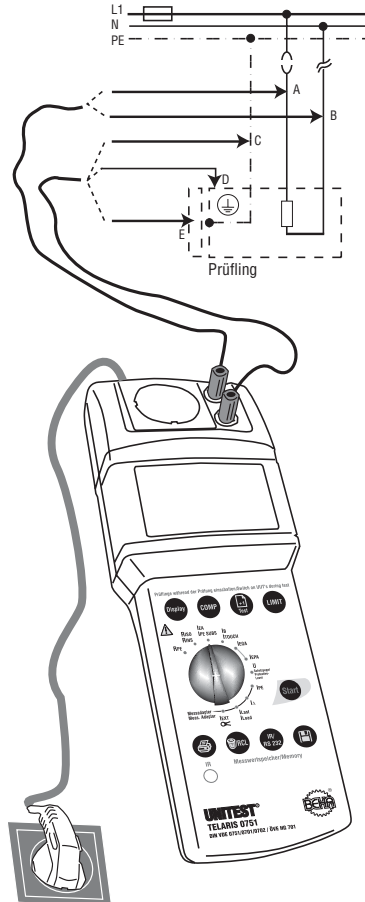

Figure 6.10: Measuring the substitute leakage current for fixed installed appliances or appliances not equipped with a mains plug.
- ▶ Connect the UNITEST TELARIS 0751 via the mains plug (1) to a functional and correctly wired and grounded mains socket.
- ▶ Turn the 'Measurement function' selection switch (15) to position 'IPE SUBS'.
- ▶ Connect the UUT PE connection to the blue 'PE' socket (5), in compliance with C in Figure 6.10.
☞ For appliances of protection class II or III, additionally connect the 'PE' socket (5) to all touchable, conductive casing parts of the UUT, in compliance with D, E in Figure 6.10.
- ▶ Connect the 'L/N' socket (4) to all active connectors of the UUT, in compliance with A, B in Figure 6.10.
- ▶ Press the key "Start" (9). The unit symbol which is blinking on the display is an indication for the active measurement procedure.
- ▶ Read the measurement value from the LC display (6). If the limit value display is active, the symbol 'LIMIT' (21) indicates that the limit value has been exceeded.